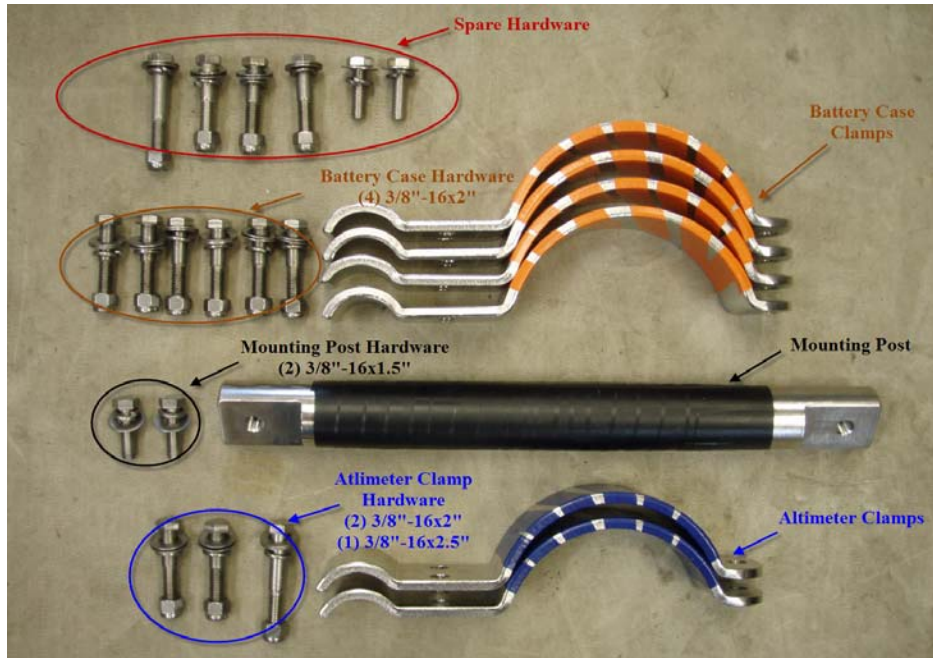

Figure 5: Mounts.
5) Mounts (316 SS) (Figure 5):